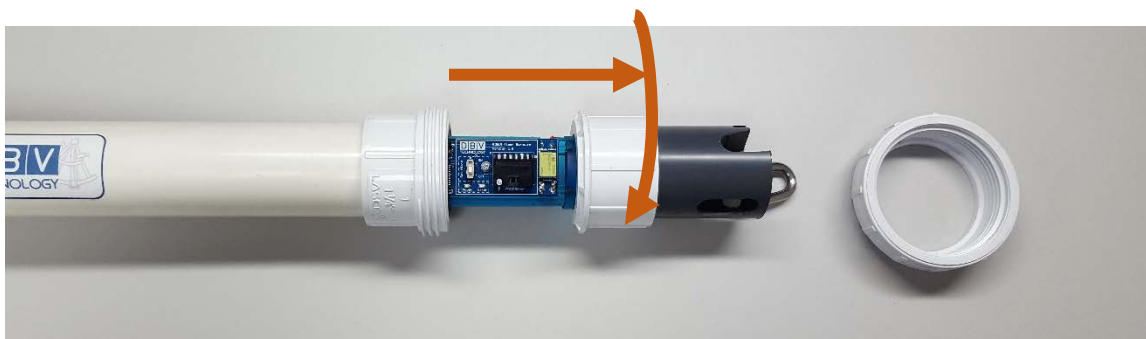

Figure 2
2. On a flat surface, slowly pull the Burnwire release endcap away from the tube to expose the internal electronics as shown in Figure 2.